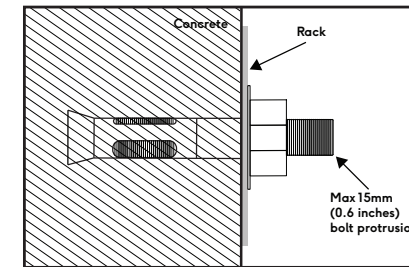

Fig 1/ Concrete Wall
- Fig 1** Into Concrete Wall – M10/50mm (1 15/16") zinc plated sleeve anchor (1 per mounting plate)